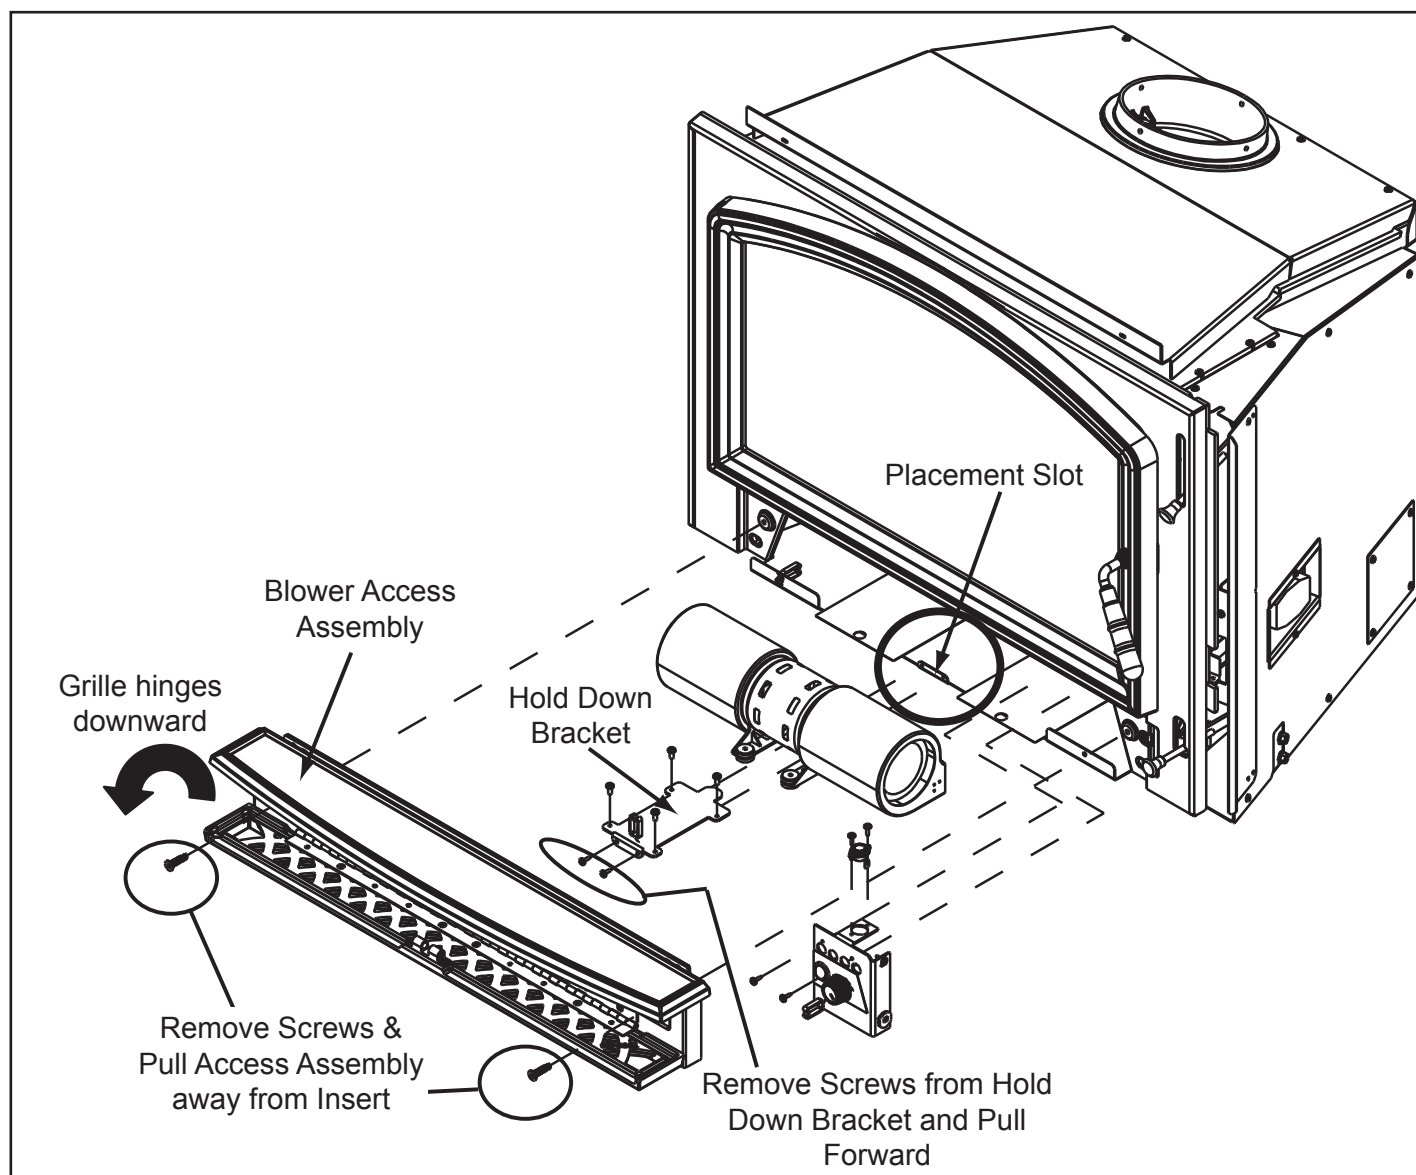

Figure 23.1
1. The grille on the blower access assembly is hinged. Swing the grille downward to expose the 2 screws. **Figure 23.1 on page 23.**
1. The grille on the blower access assembly is hinged. Swing the grille downward to expose the 2 screws. **Figure 23.1.**